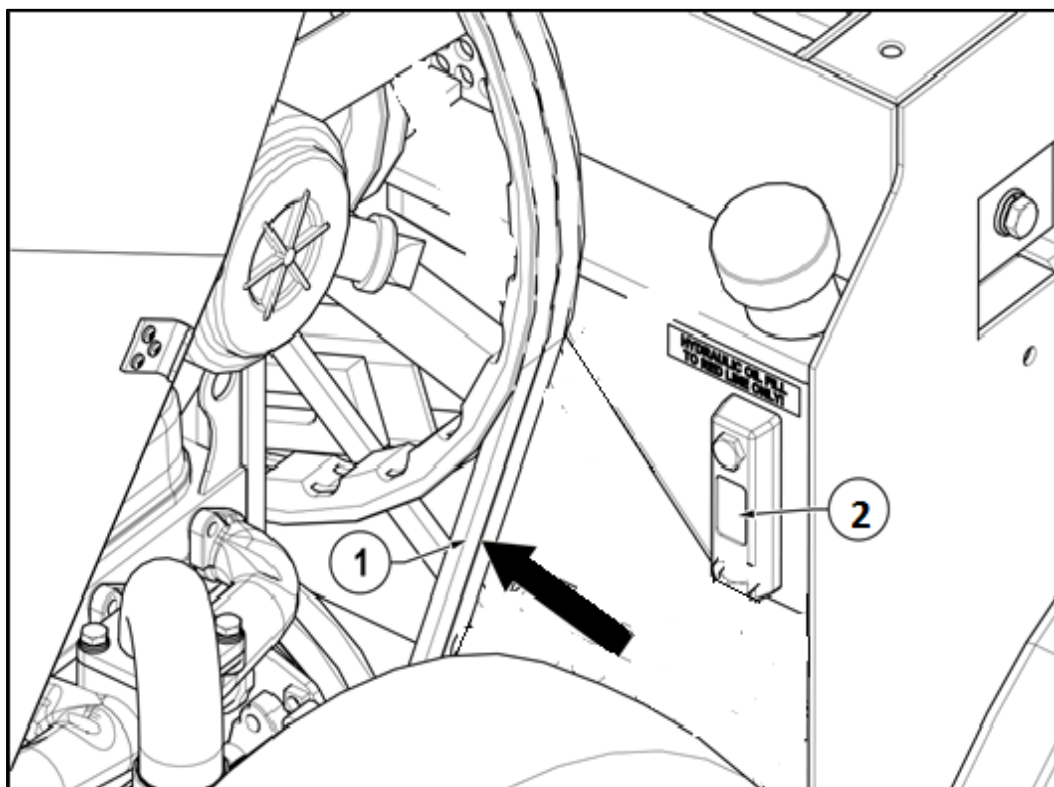

Figure 17
All drive belts are located under the engine cover as shown in Figure 13 and Figure 14 and tension checked at arrows shown in Figure 17. Check and set tension as follows:
2. Turn adjuster nut or screw to tension belt until 4.5Kg force at the belt longest centre span deflects by 6mm (see Figure 17). Can be approximated by firmly gripping belt between finger and thumb and twisting. The belt should not be able to be rotated more than 90°.